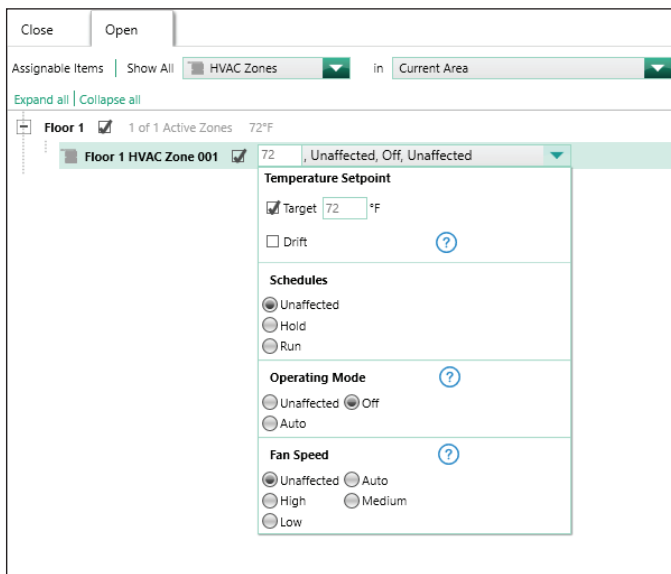

Figure 3
- In the Open tab, select the desired settings to apply when the door/window is Opened as shown in Figure 3. For the purpose of this app note, it is desired to leave the thermostat in Off mode of operation when the door is open.